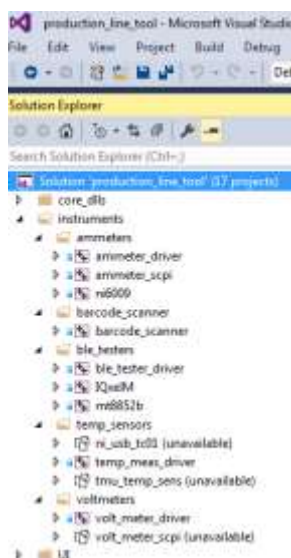

Figure 5: Visual Studio Explorer Tab with Projects Unloaded
9. If the device to be tested is not DA14680-00 (AD), then the ADC gain calibration is not required. The `volt_meter_sspi` project used for this purpose should be unloaded, following the method described above.
12. If all of the mentioned instruments are not required and were unloaded, then the Visual Studio explorer `instruments` tab should look like the one in Figure 5.